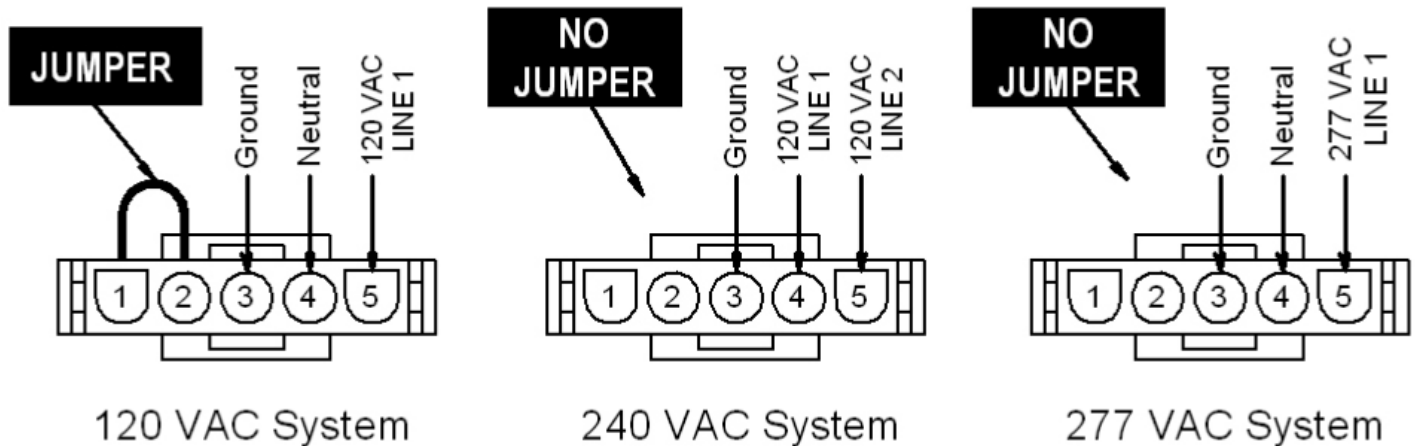

Figure 5
- If system is wired for 120 VAC power, verify a jumper wire is installed between positions 1 and 2 of the power cord connector. On systems wired for 240 VAC or 277 VAC, the jumper wire should be removed [Figure 5].
7. Check the voltage between position 4 and 5 of the power cord connector [Figure 5].